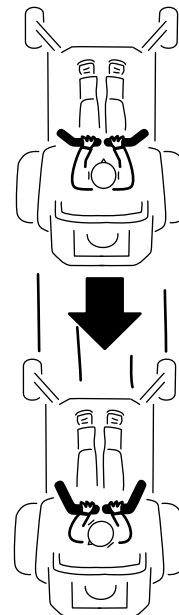

Figure 24
2. To go backward, look behind and slowly pull the motion-control levers rearward (Figure 24).